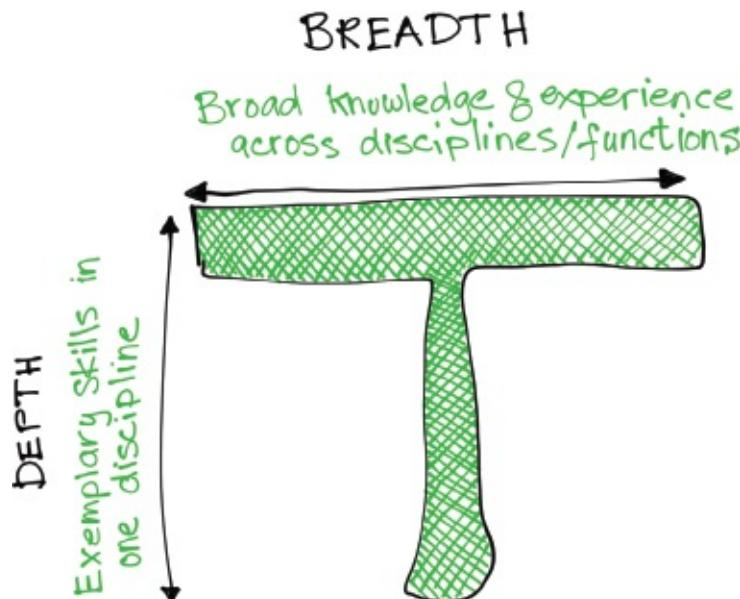

Figure 51. T-Shaped Skills
3. People felt they couldn’t touch work outside their lane. Instead of being encouraged to broaden toward T-shaped skills (Figure 51), they concentrated on greater specialization, which made Thief Unknown Dependencies happier.